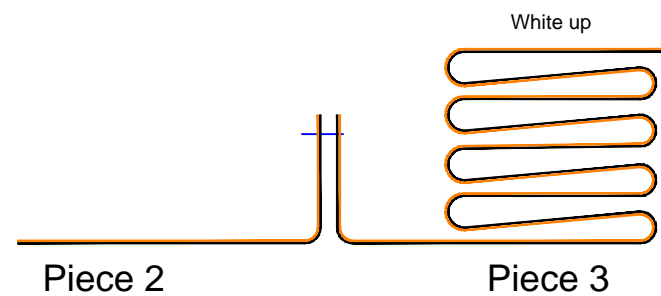

FIGURE 3
4. ONCE PIECE 3 IS UNROLLED, BRING THE BOTTOM OF BOTH PIECES TOGETHER BLACK TO BLACK, (FIGURE 3)